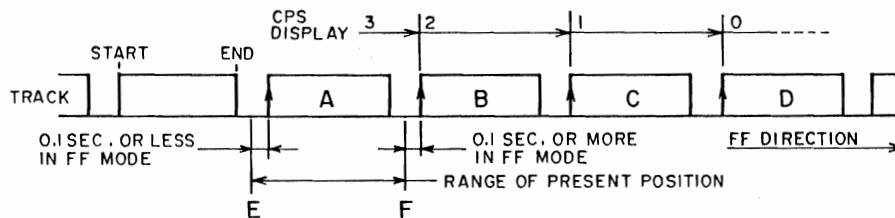

Fig. 8-2 CPS_{FF} Example
In the CPS_{FF} mode the start of each track is detected, and the CPS counter is reduced by one each time. However, no track starts are detected within the first 0.1 seconds after the start of CPS_{FF}. In addition, if CPS_{FF} is started from the middle of a track, that track is not counted. In figure 8-2 the current position is between E and F, and if the third track (D) is selected, the CPS_{FF} mode will detect each track start, and